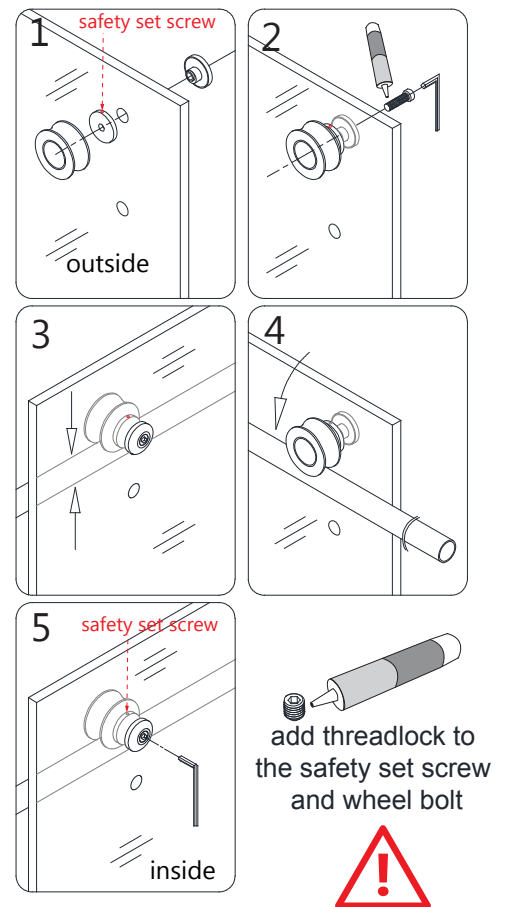

Fig 21
21. Attach the two **Rollers (#04)** to the **Door Glass (#05)** with the wheels facing outside of the shower. **Apply Thread Lock Adhesive (#26) to the bolts and safety set screws.** Align the **safety set screw** towards the top for easier access to retighten after installation. (See Fig 21 and page 28 for details)
Lift the door and position the **Rollers (#04)** onto the **Upper Guide Rail (#03)** while carefully sliding the bottom edge of the **Door Glass (#05)** into the groove of the **Guide Block (#12)**. If necessary, adjust the disks on both **Rollers (#04)** to ensure that the bottom edge of the **Door Glass (#05)** does not touch the bottom of the **Guide Block (#12)** (see details regarding adjustment on page 28). (Fig 21 and 22)